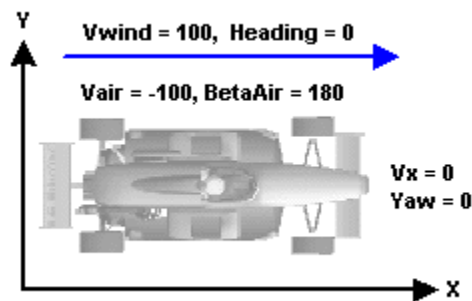

Figure 4: Vehicle Stopped with Tailwind
If the vehicle is pointed in the positive X direction (Figure 4), the vehicle yaw angle (YAW) is zero, and the wind heading (YAW_WIND) is also zero, then the wind is a perfect tailwind. With these conditions, if the vehicle is stopped ($V_x = 0$), the vehicle aerodynamic slip angle (BETA_AIR) is 180 degrees. The aerodynamic slip angle is the angle from the vehicle heading (the vehicle local X direction) to the relative wind. The relative wind is the sum of the (1) global wind vector, and the (2) wind vector contributed by the vehicle's motion.